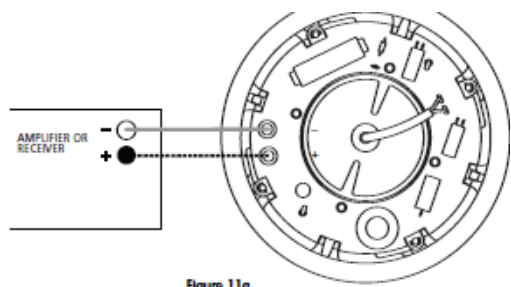
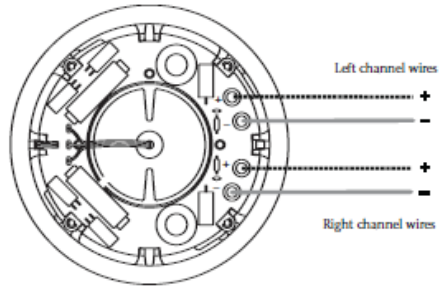

Figure 11a
Figure 11b
- Once you have cut the hole, pull the speaker wire out of the hole and connect the speaker. Strip 1/2" inch (12 mm) of insulation from each of the two conductors of the wire to expose the bare metal and twist each of the conductors into a single unfrayed strand. Note that one of the terminals on the rear of each speaker is marked red (+) and the other black (-). Make certain that you connect the wire from the red terminal (+) of your amplifier or receiver to the red terminal (+) on your speaker and the wire from the black terminal (-) of your amplifier or receiver to the black terminal (-) on your speaker. Most wire has some indicator (such as color-coding, ribbing or writing) on one of the two conductors to help you maintain consistency [Figure 11a]. In the case of the DT 6.5STR single speaker stereo model, both left and right channel speaker wires are connected to the speaker [Figure 11b].